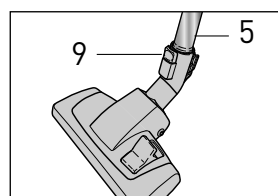

Figure 10
SEBO accessories with a button lock or release button will "SNAP" into place when attached correctly. The release button (9) is in the same position on all SEBO nozzles, brushes and power heads (figure 10). Friction fit accessories like the on-board tools should be snug, but not overly tight. When connecting or changing any SEBO non-electrical accessories such as the parquet brush (28), crevice nozzle (25), dusting brush (22) or upholstery nozzle (24), there is no need to unplug the canister.